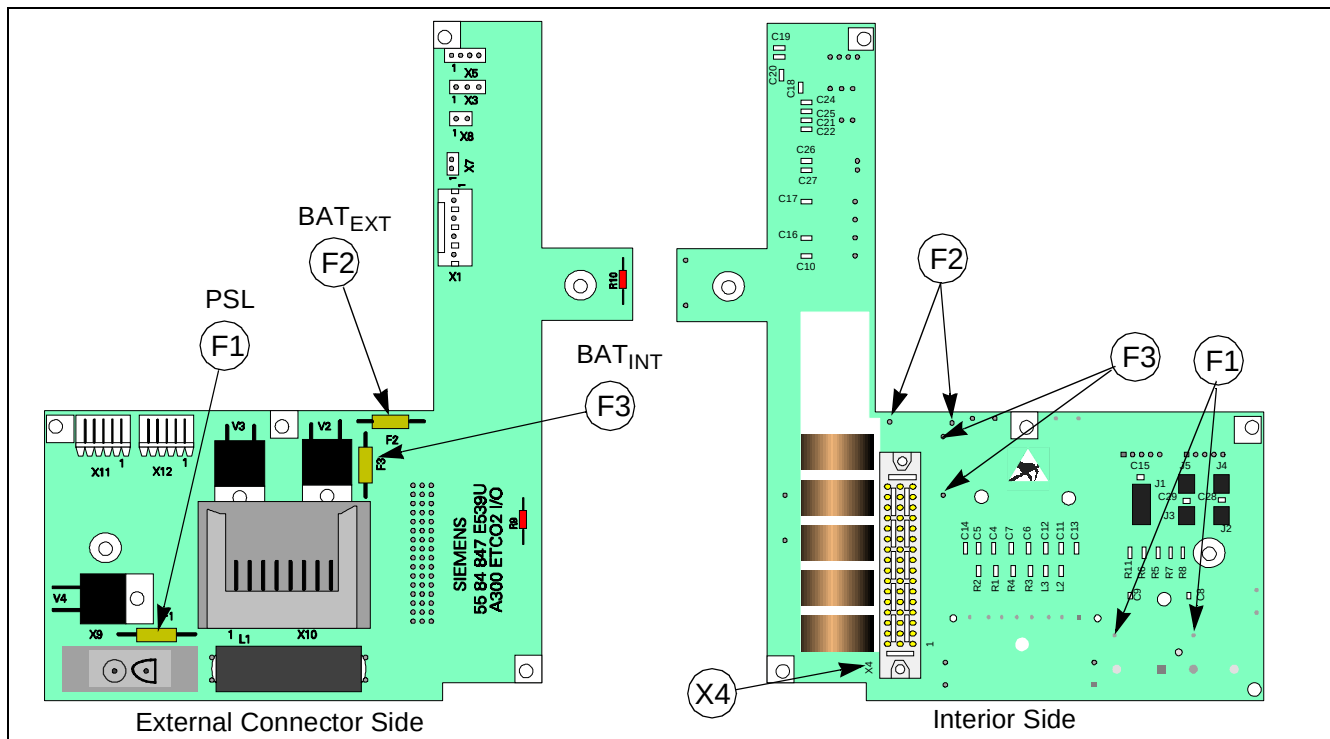

Figure 5-1 Connector I/O PCB
- 6) Check continuity of F1. See Figure 5-1 on page 76.
- 4) Check in-line fuse in power harness (if installed), and check for $<5\Omega$ between black wire battery terminal connector and pin 4 on connector X1. See Figure 5-1 on page 76.
- 6) Check continuity of F3. See Figure 5-1 on page 76.
- 3) Remove back cover, and with external power plugged into monitor check voltage between pins 1 and 2 of X1. See Figure 5-1 on page 76
- 5) Check continuity of F2. See Figure 5-1 on page 76.
- 2) Check continuity of F1, F2, and F3. See Figure 5-1 on page 76.
- 2) Remove battery/NBP compartment access door and unplug battery power cable connector from X1. See Figure 5-1 on page 76.
11) Check continuity of F2 (if external battery problem) or F3 (if main battery problem). See Figure 5-1 on page 76.